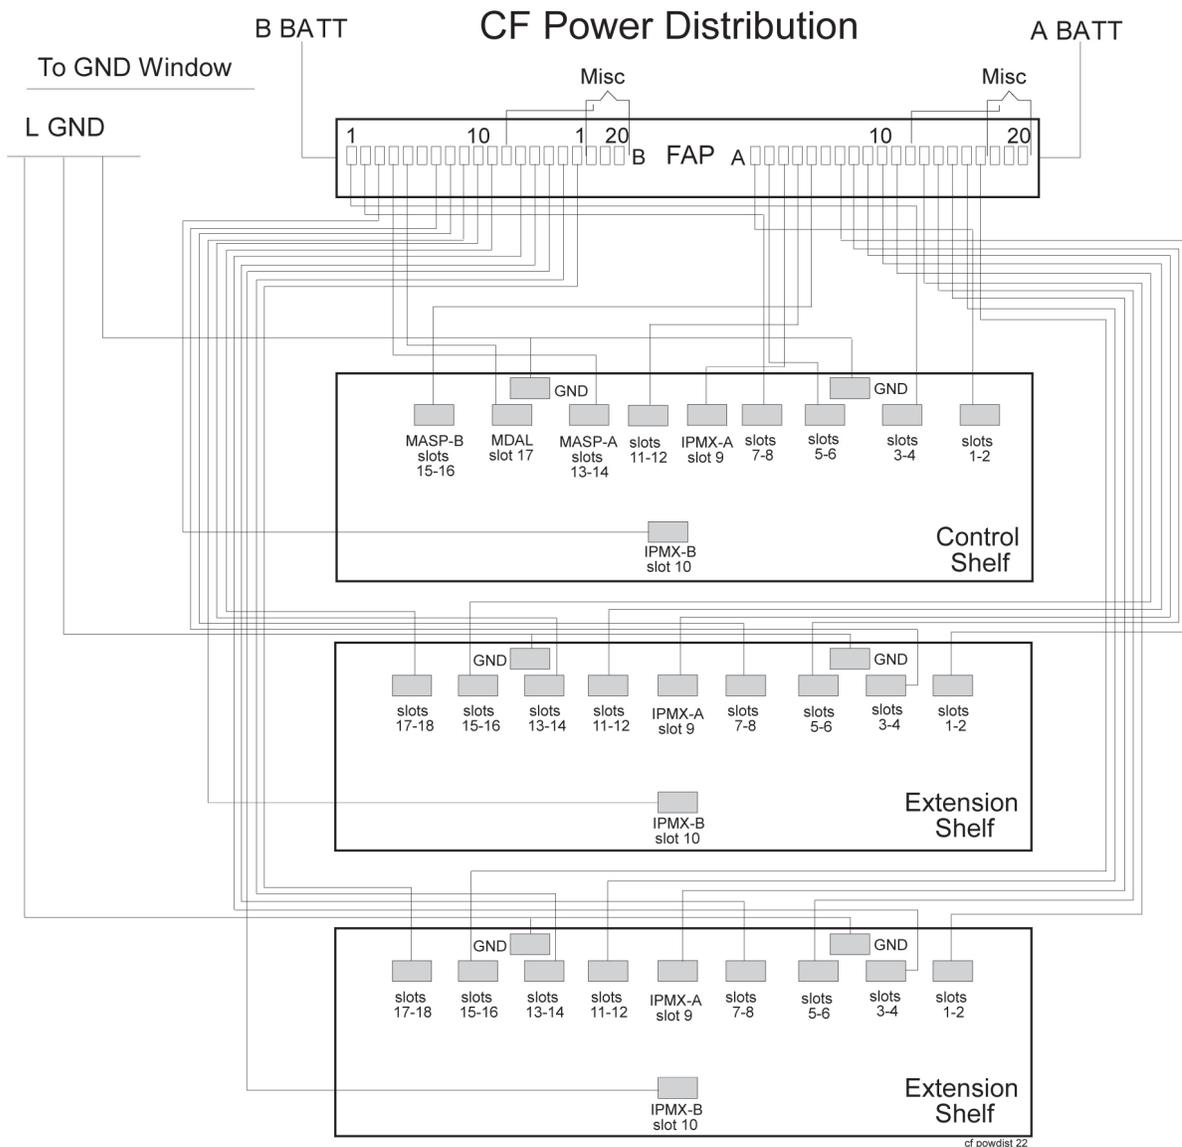

Figure 61: Control Frame FAP (P/N 870-0243-08 and P/N 870-1606-xx)
- Control frame, *Figure 61: Control Frame FAP (P/N 870-0243-08 and P/N 870-1606-xx)*